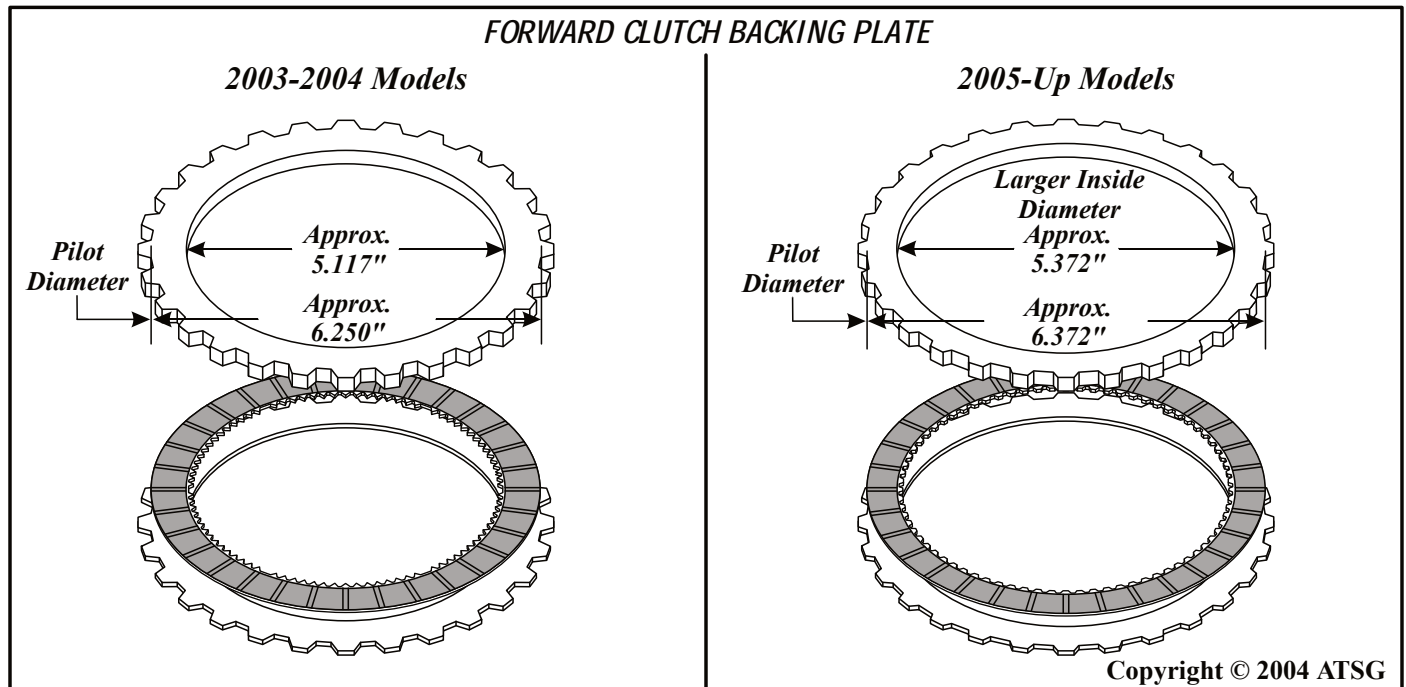

Figure 120
3. Increased inside and pilot diameters of the forward clutch backing plate, as shown in Figure 120.